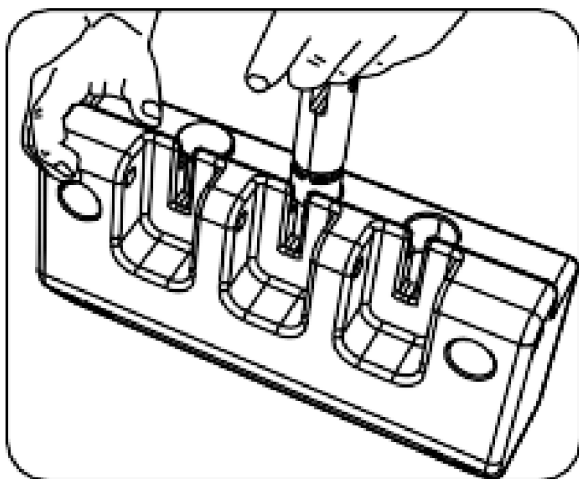

Figure 5-5
6. When the valve is inserted fully, turn it to face forward as shown in Figure 5-5. below.